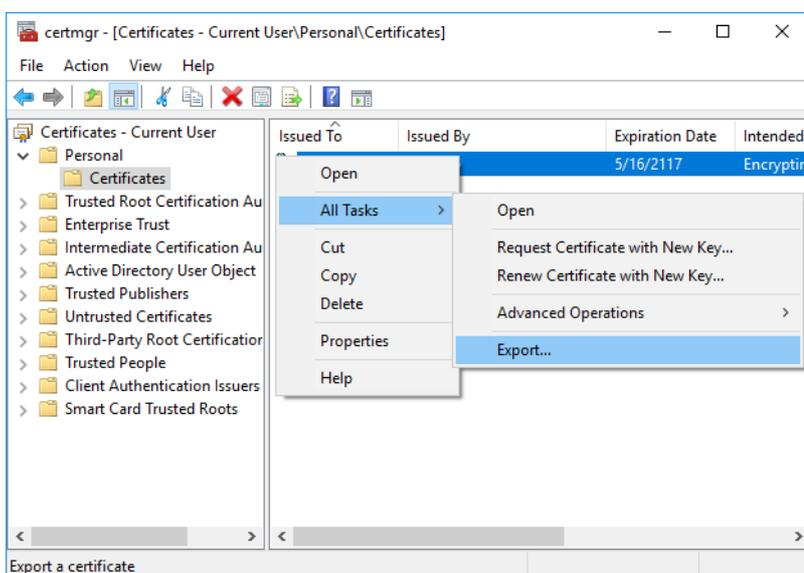

Figure 2-39. Exporting certificate
4. Choose **Export** from the shortcut menu, see Figure 2-39.